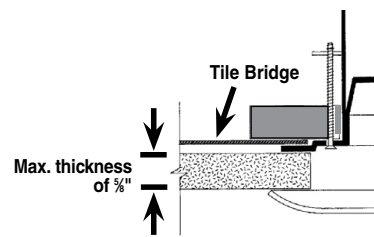

FIG. 3
- Figure 3 Enclosure installation from above ceiling using tile bridge (new construction). Rotating clamps are used to pre-mount tile bridge to enclosure, allowing system to be positioned in ceiling before tiles are set. Please note maximum ceiling thickness in this application is 5/8" to allow grille studs to mount into enclosure.